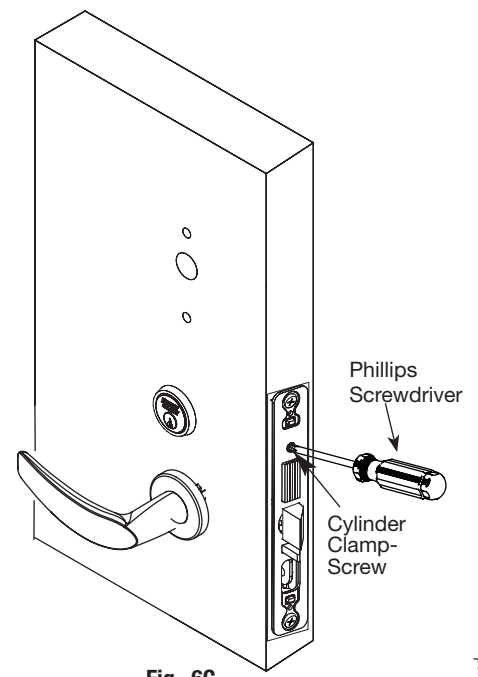

Fig. 6C
5. Hand tighten the cylinder clamp set screw to prevent unscrewing of the cylinder (Fig 6C).